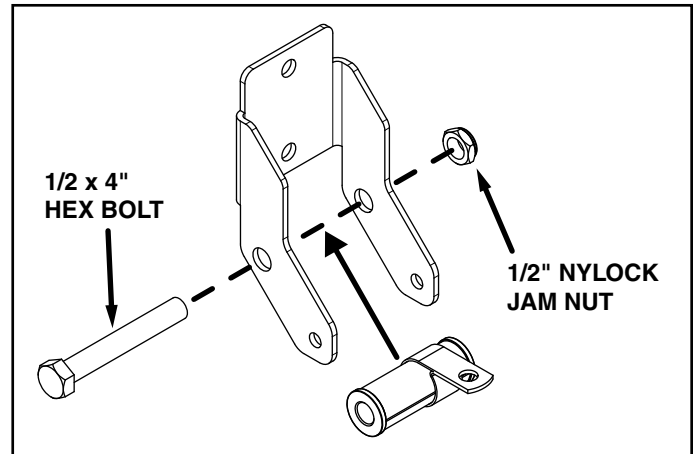

FIGURE 4
- Attach each of the bearing, spacer, and clamp assemblies to a mount bracket using a 1/2" x 4" hex bolt and 1/2" nylock jam nut. See figure 4.